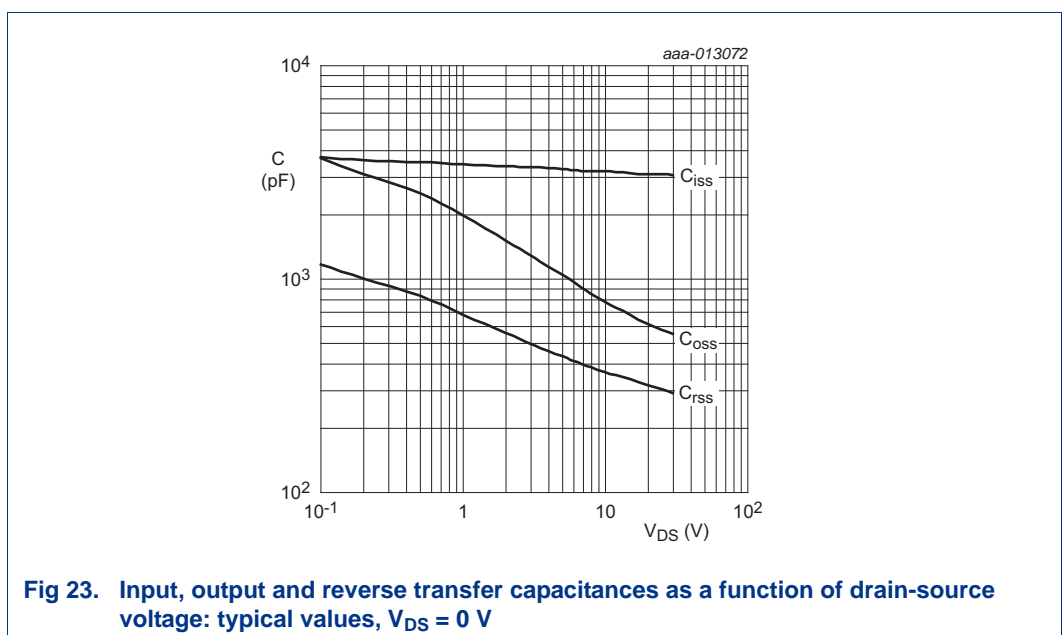

Fig 23. Input, output and reverse transfer capacitances as a function of drain-source voltage: typical values, $V_{DS} = 0\text{ V}$
13.6 Q: Can NXP provide C_{GD} , C_{GS} and C_{DS} numerical values for $T_j = -55\text{ }^\circ\text{C}$ and $T_j = +175\text{ }^\circ\text{C}$ (at $V_{GS} = 0\text{ V}$, $V_{DS} = 16\text{ V}$)? If it is impossible to test, a theoretical one is also acceptable. A graph is provided in Figure 23, but it is for $T_j = +25\text{ }^\circ\text{C}$.
These relationships are illustrated on the data sheet graph depicted by Figure 23. It has been observed that switching losses only slightly increase at $T_{j(max)}$, in the order of 10 %, since the capacitances only marginally change. Other factors can influence switching behavior, especially where the gate driver current capability changes significantly with temperature. The depletion layer thickness varies in proportion to the square root of the absolute temperature in K and it affects C_{rss} and C_{oss} .